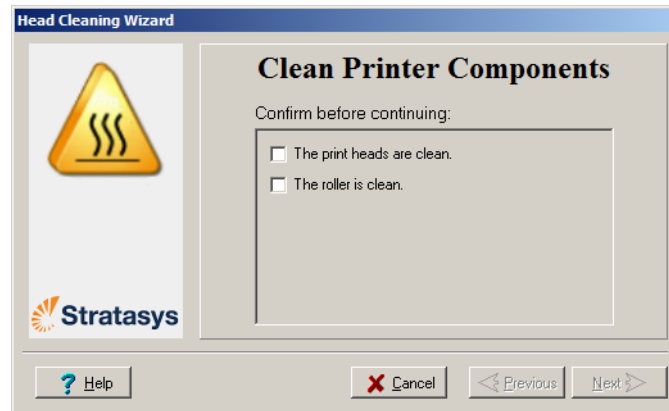

Figure 6-32: Head cleaning wizard—steps 5–10
- When you have finished cleaning, select the confirmation check box in the wizard screen (see figure 6-32) and click **Next**.